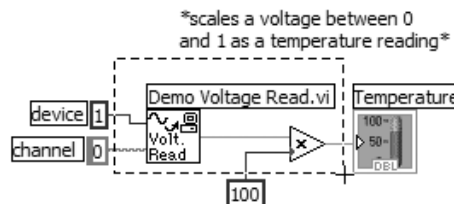
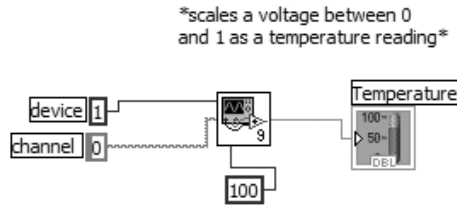

Figure 5.31
Figure 5.32
10. Just for fun, use the Positioning tool to select the portion of the block diagram shown in Figure 5.31; then choose **Create SubVI** from the **Edit** menu to automatically turn it into a subVI. Notice that the Temperature indicator remains part of the caller VI, as shown in Figure 5.32. Double-click on the new subVI to see its front panel.